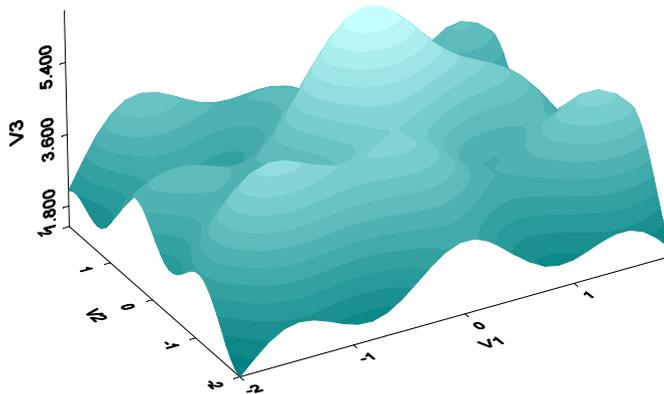

Figure 3.48: Filled surface plot of the *exsurf* data.
3. Click the **Color Scale Legend** button  on the **Graph** toolbar to add a legend. The resulting graph is shown in Figure 3.48.